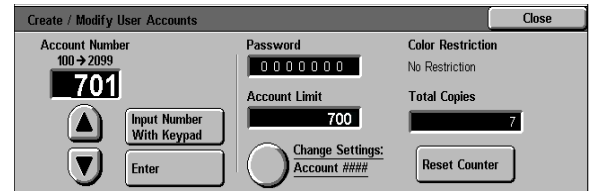

Figure 24: Reset Counter button
- 2 Touch the **Reset Counter** button, Figure 24.